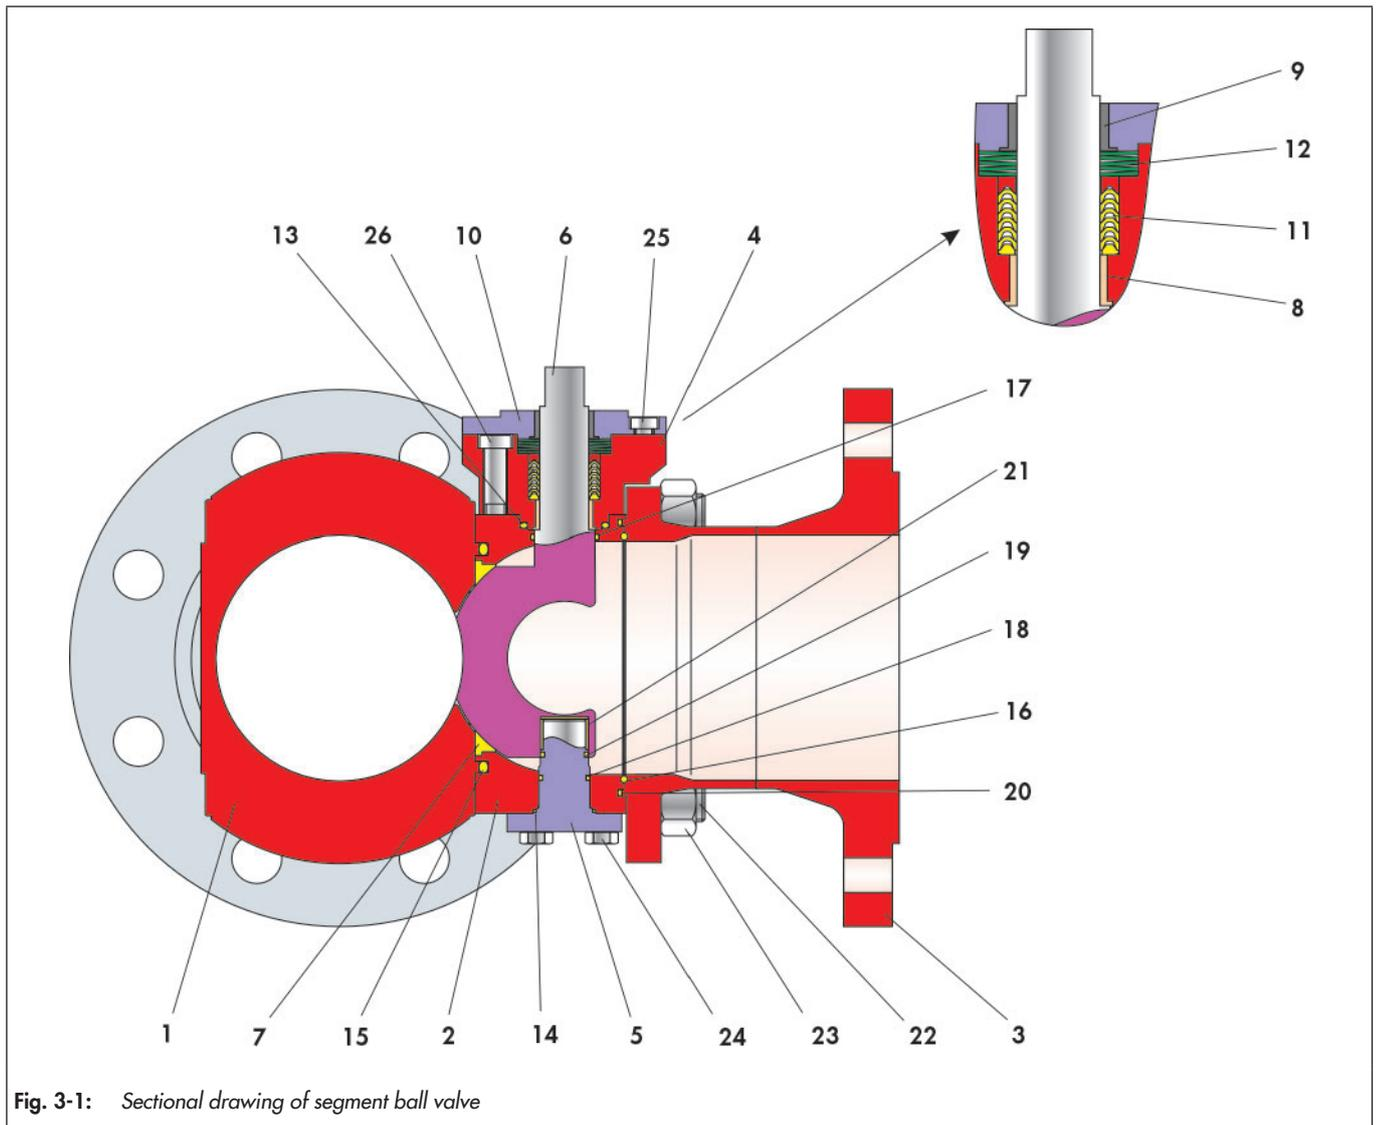

Fig. 3-1: Sectional drawing of segment ball valve
The position and arrangement of the individual parts shown in the drawing (Fig. 3-1) must be observed during assembly.
- ⇒ With a light rotating movement, press the V-ring packing (11) over the control shaft and place in the packing chamber of the stuffing box adapter (4). For the positioning of the V-rings, refer to the explosion drawing (Fig. 3-1).
- ⇒ Now the disc spring set (12) is placed on the V-ring packing (11). Also here, refer to the explosion drawing (Fig. 3-1) for positioning the disc springs.
- ⇒ Press the bearing bush (9) into the stuffing box flange (10).
- ⇒ Following this, place the stuffing box flange (10) over the shaft of the rotary plug (6), and mount onto the stuffing box adapter (4).
- ⇒ Lightly grease the screws (25).
- ⇒ The stuffing box flange (10) is screwed evenly and alternately with the screws (25).